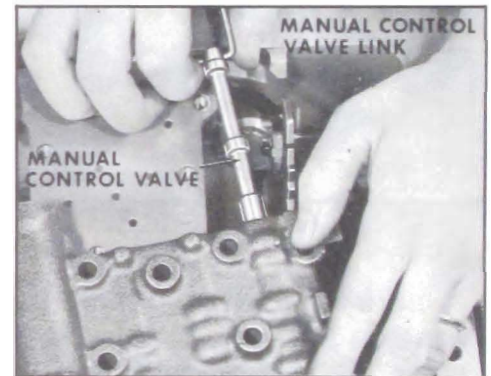

Figure 5-117
10. Remove manual control valve and link from valve body assembly. Remove valve body. See Figure 5-117.